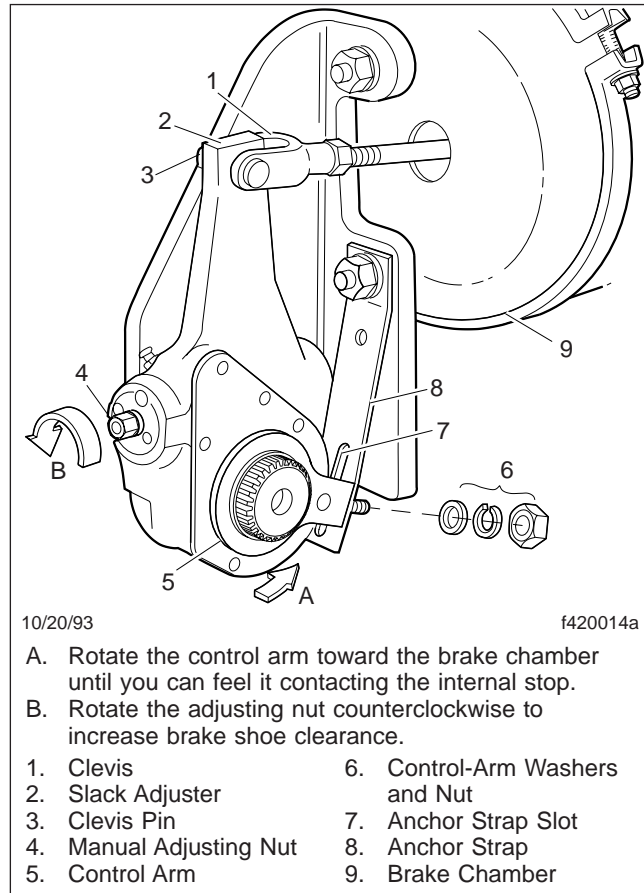

Fig. 4, Haldex (SAB) Automatic Slack Adjuster
- Inspect each slack adjuster and anchor strap assembly for damage. See Fig. 4. Replace any damaged parts.
If the holes in the adjuster and the clevis do not remain aligned, it means the control arm is not against the internal body stop. This indicates an incorrect installation. Move the adjuster into alignment with the clevis hole, and install the clevis pin. Loosen the control-arm nut, and rotate the control arm toward the brake chamber until you can feel it contacting the internal stop (see arrow A in Fig. 4). Be sure the control-arm stud moves freely in the slot of the anchor strap.
NOTE: Brake shoe clearance can be increased for inspection or brake system servicing by turning the manual adjusting nut counterclockwise (see arrow B in Fig. 4). Turning it in that direction takes considerable effort and may be accompanied by a ratcheting sound.